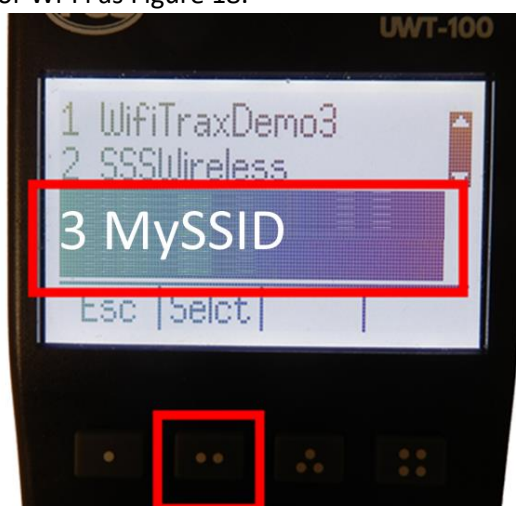

Figure 19 Select the Home Wi-Fi Network
(4) In the Found Networks list, select your home network as Figure 19. Select that Network, using the Selct [..] key.